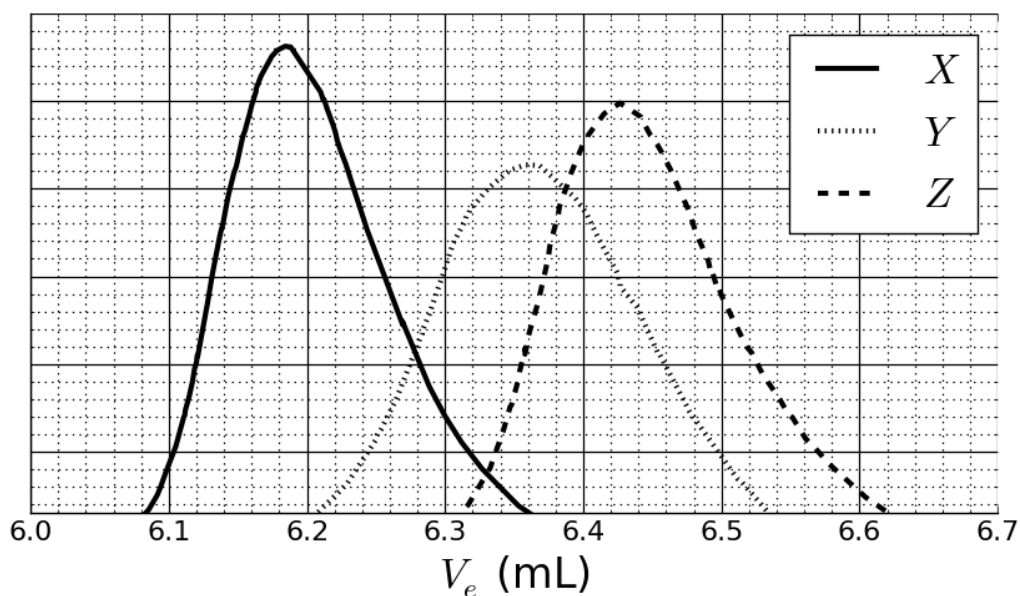

Fig. 2 – SEC chromatograms of **3a**, **3b** and **3c** as a function of the elution volume,  $V_e$ .
This reaction of **1** with **2** yielded the copolymers **3a** (after 20 h), **3b** (after 25 h), and **3c** (after 30 h) at a temperature of 40 °C. Results of size-exclusion chromatography (SEC) experiments are presented in Fig. 2.
6. **Match** the curves in Fig. 2 with the copolymers **3a**, **3b** and **3c**.
7. Based on the SEC curves in Fig. 2 and 3, **determine**  $V_e$  of the polymer that corresponds to curve  $X$  and use it to **estimate** the degree of polymerization  $m$  of its second block. **Detail** your calculation; you may use a calculator or plot a graph.